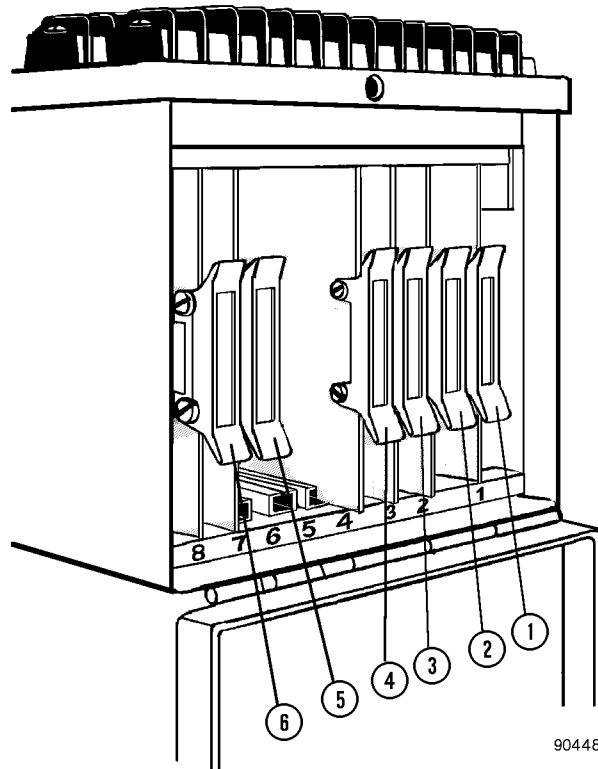

FIGURE 3-2. AID SYSTEM CARD ENCLOSURE
The AID system enables the indicating lights to be flashing or constant. The AID also has the capability of operating an audible alarm along with the light. The eight printed circuit cards are (refer to Figure 3-2):
*NOTE: Each card is identified with a number which corresponds with a mating number on the housing. If cards are removed, make sure card numbers correspond with housing numbers during installation (See Figure 3-2).*
The Diode Matrix Without Sound Card (2, Figure 3-2) consists of a series of diodes capable of working with eight different indicator circuits. The indicator light can be a flashing light by connecting it to the 12F circuit or a steady light by connecting it to the 12M circuit. In addition, some of the indicator light circuits are routed through a dimmer module to allow the operator to vary the intensity of the lamps. These
The Diode Matrix With Sound Card (1, Figure 3-2) works very much like the other Diode Matrix Card, except that it contains extra diodes to activate the alarm horn in addition to the flasher. The circuits connected to terminals A1 through A8 operate in the same manner.